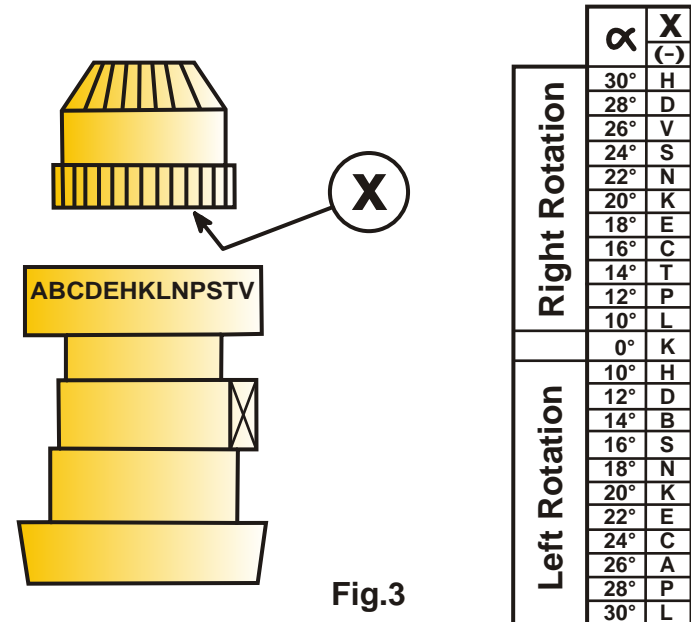

Fig.3
C) On the bottom of the central gear (6) there is a groove on the bottom of one of the teeth, this represents the "X" on the chart in figure 3. Place the tooth with the groove into the corresponding lettered gear on the hub (1).